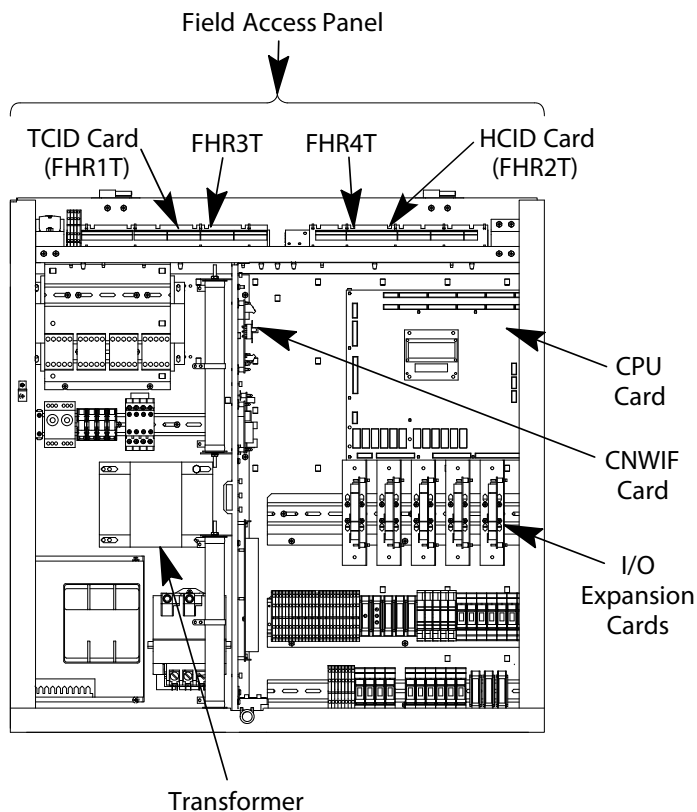

Figure 16 - Controller Card Locations
2. Start in the controller and connect the hall station, the position indicator, the door interlock, the limit switch, and the pit stop switch wiring to the HCID card and the field terminal strip (located behind the HCID card). See the job wiring diagrams and Figure 16 for all steps in this procedure.